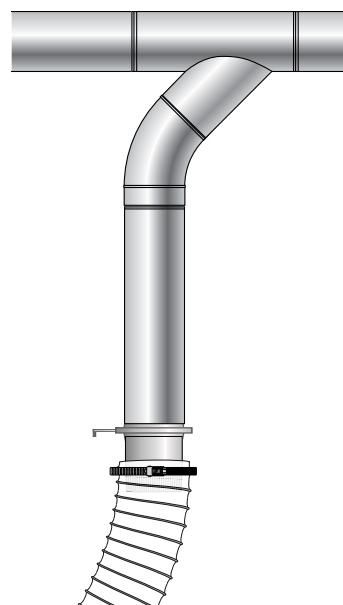

FIG. 31c
- Attach the Hose to your ductwork and secure it in place with the Hose Clamp [FIG 31c].